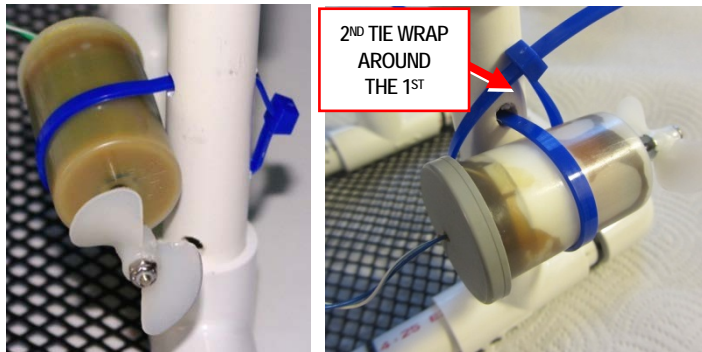
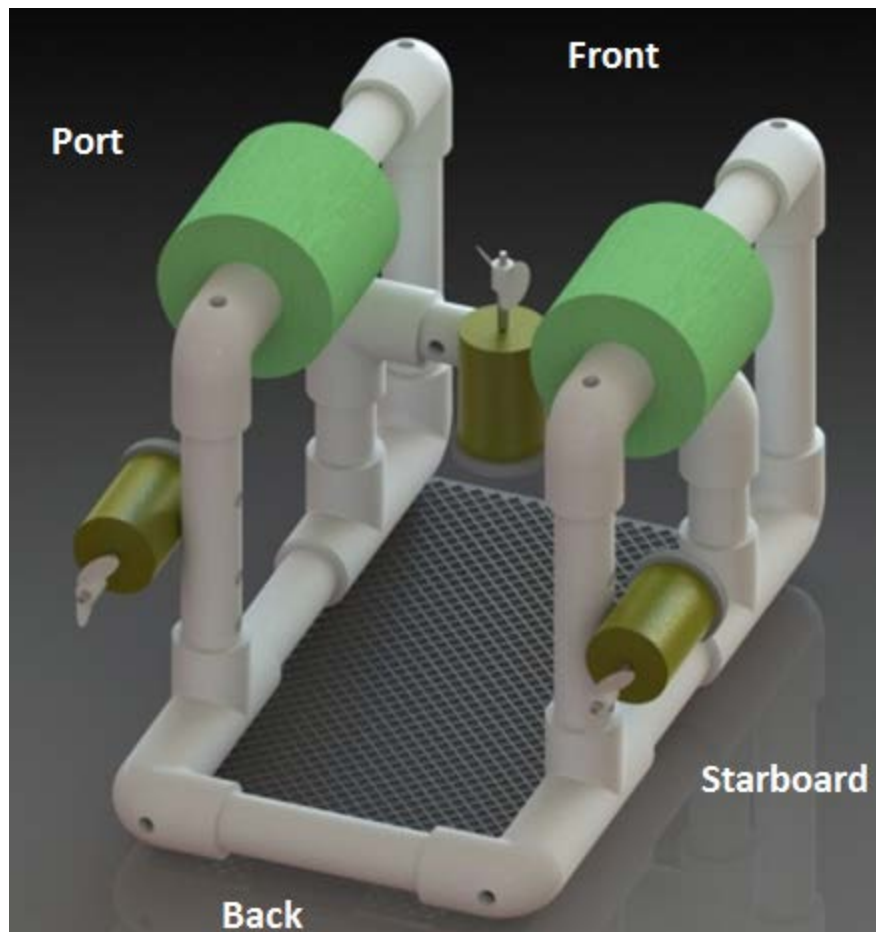

Figure 2.6-5: One Heavy-Duty Tie Wrap Holds the Thruster to the Pipe, and a Second Tie Wrap Tightens the First to Secure the Thruster Tightly to the Frame
Figure 2.6-7: SeaPerch with Mounted Thrusters
2. Place the appropriate thruster in the loop formed by each tie wrap, and tighten the tie wrap around the thruster, as shown in Figure 2.6-5. Refer to Table 2.6-1 for thruster placement. Be sure to mount the vertical thruster with its propeller pointing upward, as shown in Figure 2.6-7.